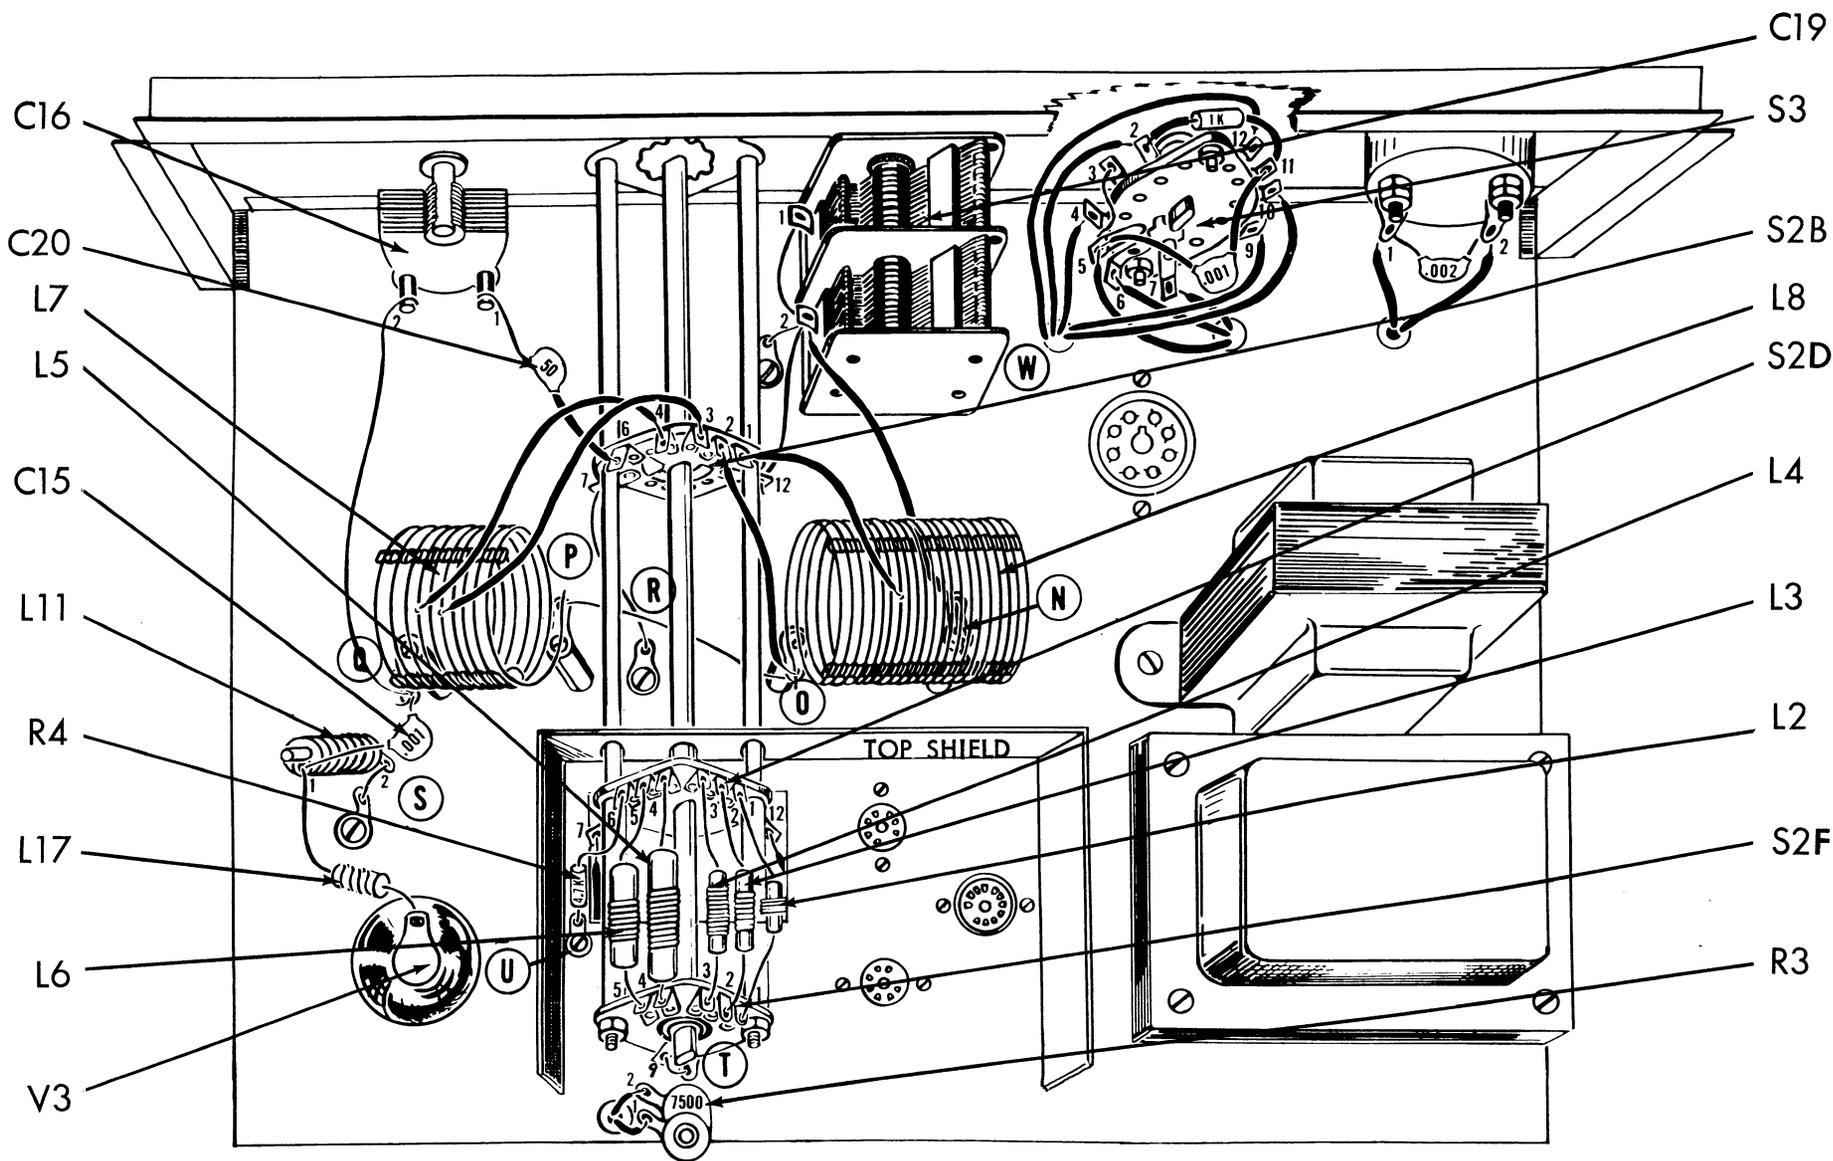

Fig. 9
1. (✓) Fig. 9. Connect a 2 1/2" piece of the heavy bare wire from C19-2 (S4) to S2B-12 (S1).
2. ( ) Fig. 9. Connect a 3" piece of heavy bare wire covered with a 2 1/2" piece of spaghetti from S2B-7 (S1) to ground lug "R" (S1) under S2.
3. (✓) Fig. 9. The two large coils, L7 and L8, are to be mounted as follows. Note that L7 has less turns than L8. L7 has 2 taps while L8 has one tap. The chassis is oriented with the panel away from the builder. Mount L7 (the coil with less turns), as shown. The two taps are to be close to the left edge of the chassis, away from S2. The first tap is 4 1/2 turns from the right. The ends of the coil are to be soldered to the two #8 ground lugs which are mounted on the two ceramic standoff insulators at the left of S2. Bend the ears on the lugs around the ends of the coil wire. Solder the ends of the coil wire and all the other leads going to lugs "P" & "Q". Clip off any excess length of coil wire, extending beyond the soldered lugs.
4. (✓) Fig. 9. Cut the lead coming from the center of L8 to 2 3/4". Cover the lead with a 2 1/2" piece of spaghetti. Connect the lead to S2B-1 (S1).
5. (✓) Fig. 9. Cut the two leads connected near the center of L7 to 3". Cover each lead with a 2 3/4" piece of spaghetti. Connect the lead from the tap nearest the switch to S2B-3 (S1). Connect the other lead to S2B-4 (S1).
6. (✓) Fig. 9. Cut both leads on a 50 mmf disc capacitor, C20, to 1 1/4". Cover one lead with a 1" piece of spaghetti and connect to S2B-6 (S1). Connect the other lead to C16-1 (S1).
7. (✓) Fig. 9. Connect a 3 1/4" piece of heavy bare wire from C16-2 (S1) to lug "Q" (C).
8. (✓) Fig. 9. Cut both leads on a .001 mfd - 2000V (1K or 1000 mmf) disc capacitor, C15, to 1". Connect from L11-1 (C) to Lug "Q" (S3).
9. (✓) Fig. 9. Connect a 3/4" piece of bare wire from L11-2 (S1) to insulated lug "S" (S1).
10. (✓) Fig. 9. Cut one end of the parasitic suppressor choke, L17, to 3/4". This is a 47Ω (yellow, violet, black) resistor with four turn of wire. Connect this end to L11-1 (S2).
11. (✓) Fig. 9. Cut the other end of the choke L17 to 1 1/4". Push it through the rear hole in the insulation of the tube cap. Solder this lead to the cap.
12. (✓) Fig. 9. From hole "W", connect the black lead to S3A-9 (S1).
13. (✓) Fig. 9. From hole "W", connect the red-yellow lead to S3A-2 (S2).
14. (✓) Fig. 9. One end of a heavy bare wire covered with spaghetti was previously connected to C12-3 and pushed through the rectangular hole. Connect the other end of this wire to S2D-12 (S1).
15. (✓) Fig. 9. Connect the remaining heavy bare wire covered with spaghetti coming through this same rectangular hole to S2D-7 (S1).
16. (✓) Fig. 9. Connect a 1" piece of heavy bare wire from S2F-9 (S1) to insulated lug "T" (S1).
17. (✓) Fig. 9. Cut both leads on a 4.7KΩ (yellow, violet, red) resistor, R4, to 1 1/4". Connect from S2D-6 (S1) to ground lug "U" (S1). Cover lead to S2D-6 with 1" spaghetti.
18. ( ) Fig. 9. In one bag included in the kit there are five RF coils, L2, L3, L4, L5 and L6. The coil on the smallest form with the red dot is L2. The coils on the largest coil form with stock number 35031 stamped on the body is L6. All the coils range from the smallest to the largest in that order. For example, L6 is larger than L5, which has stock #35030 stamped on the body. L5 is larger than L4, etc. L3 with the orange dot and L4 with the green dot are on the same size coil form. However, L3 uses a finer (thinner) wire than L4. Cut all leads to 3/4" except L6. Connect L2 from S2D-1 (S1) to S2F-1 (S1). Connect L3 from S2D-2 (S1) to S2F-2 (S1). Connect L4 from S2D-3 (S1) to S2F-3 (S1). Connect L5 from S2D-4 (S1) to S2F-4 (S1). Cut leads on L6 to 1/2" and connect L6 from S2D-5 (S1) to S2F-5 (S1). Align all coils so that they are parallel to each other and are spaced as far apart as practicable.
19. (✓) Fig. 9. Mount the top shield as shown in Figure 1, by sliding the slits in the shield over the switch rods. Use four #6 lockwashers and four #6-32 hex nuts.
20. (✓) Fig. 9. Solder one of the twist tabs of the bottom shield to the top of the chassis.